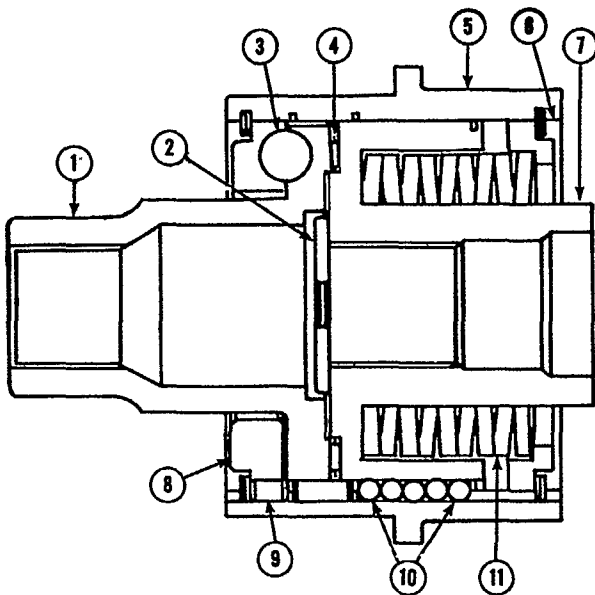
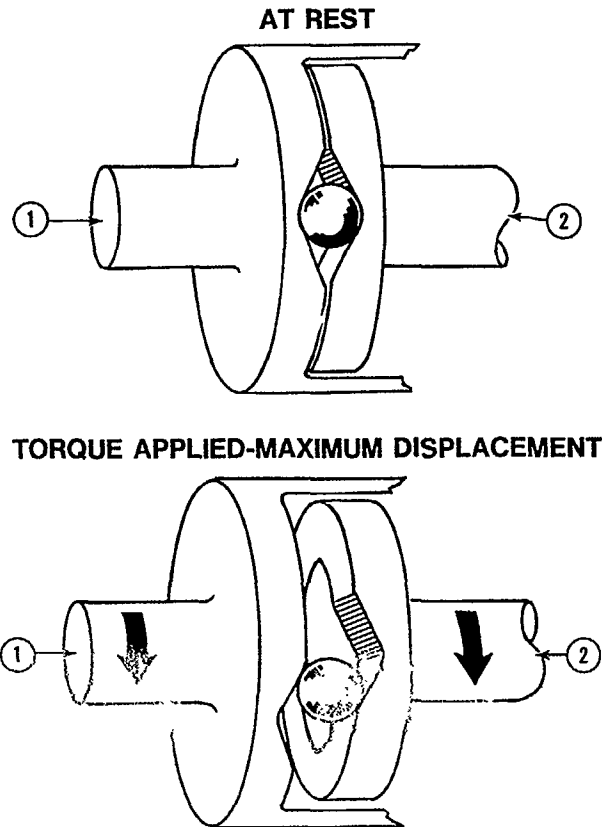

Figure 6
Figure 7
The Load Monitor torque sensing unit, Figure 6, is located in the driveline of the tractor as shown at (4), Figure 3. It connects the transmission output shaft to the pinion shaft of the differential.
ward movement of the coupling which in turn tilts the fork forward. The fork is attached by means of the strut to the lower portion of the linkage assembly, Figure 3, so the linkage assembly is also drawn forward, pushing on the control rod. The control rod causes the actuating lever to rotate about its upper pivot, moving the control valve spool forward to the raising position, causing the implement to raise. When the lift control lever is moved down the quadrant until the desired working depth is established, the balls (3), Figure 6, will be displaced to some degree between the "rest" state, top view of Figure 7, and maximum displacement, bottom view of Figure 7. This condition is referred to as being "under load," or as the "established" load.
Raising: When the tractor is not moving, the Load Monitor is said to be in the "at rest" position shown in Figure 7. When the tractor begins to move, there is resistance to turning the drive wheels. Consequently, the input hub tends to turn more than the output hub. Any increase in torque results in a slight displacement of the balls with respect to their sockets, producing a parting (separation) of the input hub and the plate. This parting effects a for-
Lowering: Lowering the implement (increasing the working depth) occurs when less torque is required to turn the tractor drive wheels. In this situation, the force on the balls (3), Figure 6, decreases, allowing them to relocate in their sockets. This allows the input hub (1) and the plate (8) to close together, resulting in the coupling (5) moving rearward. This movement of the coupling is passed to the control rod via the fork, strut, and lower portion of the selector linkage assembly; all of which move rearward. This movement permits the control rod spring to push the control rod rearward, relieving spring pressure on the actuating lever and allowing the control valve spool follower spring to move the control valve spool to the lowering position. As the working depth increases to a point where the load increases to the "established" load, lowering ceases as the torque required to turn the tractor drive wheels causes sufficient displacement of the balls in the load monitor to return that unit to its "established load" condition.